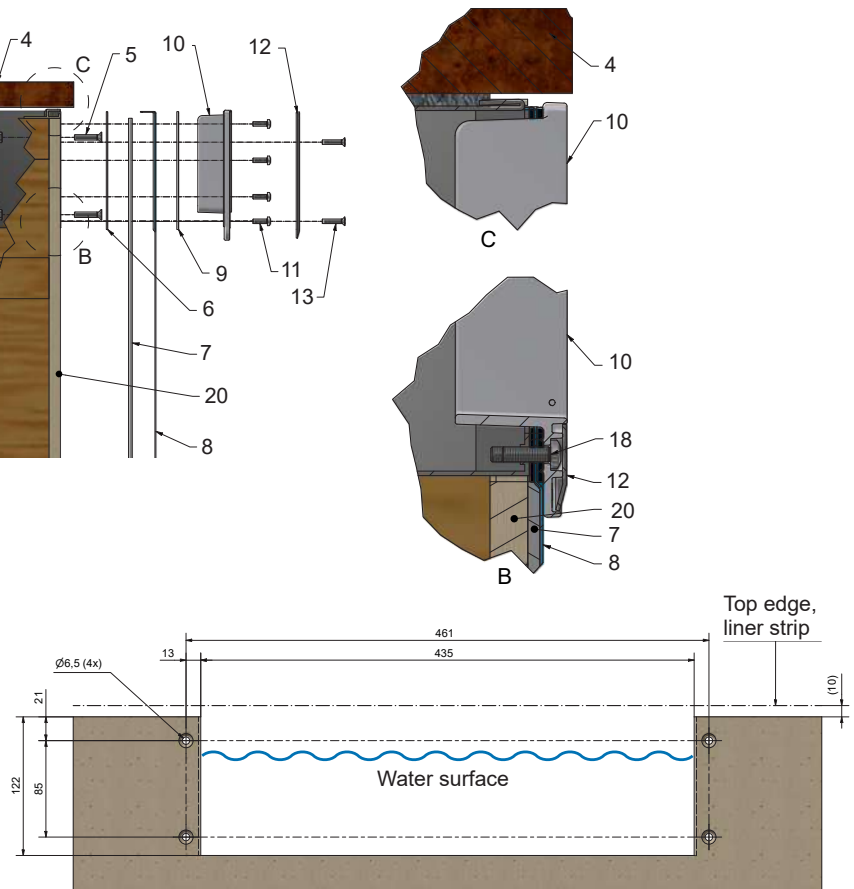

Figure 3.
1. Make a hole in the frame for the skimmer, dimensions and location as shown in Fig. 3.
4. The drainage pipe (14) is glued to the pipe muffs (15) using a suitable PVC adhesive and fitted in the skimmer with the enclosed gasket and nipple (16). Connect pipe fittings to the overflow.
6. Install the flap gate (17) and check that it is correctly located and can move.
7. Attach the self-adhesive gasket (7) to the front edge of the skimmer (facing the pool).
10. Fit the outer gasket (9) and the mounting frame (10) - fasten first, then tighten crosswise.
11. Carefully cut the liner cleanly along the inside of the mounting frame (10).
1. Make a hole for the skimmer in the frame, dimensions and location as shown in Fig. 3, 4, 5, 6 and 7.